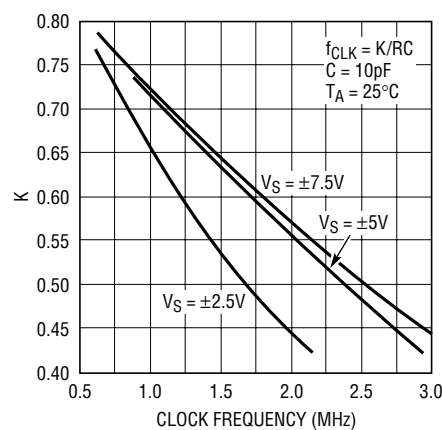

Figure 6.  $f_{CLK}$  vs K
For a very limited temperature range, the internal oscillator of the LTC1063 can be used to generate clock frequencies above 500kHz (Figures 6 and 7). The data of Figure 6 is derived from several devices. For a given external (RC) value, the observed device-to-device clock frequency variation was  $\pm 1\%$  ( $V_S = \pm 5V$ ), and  $\pm 1.25\%$  for  $V_S = \pm 2.5V$ .
from Figure 6,  $K = 0.575$ ,